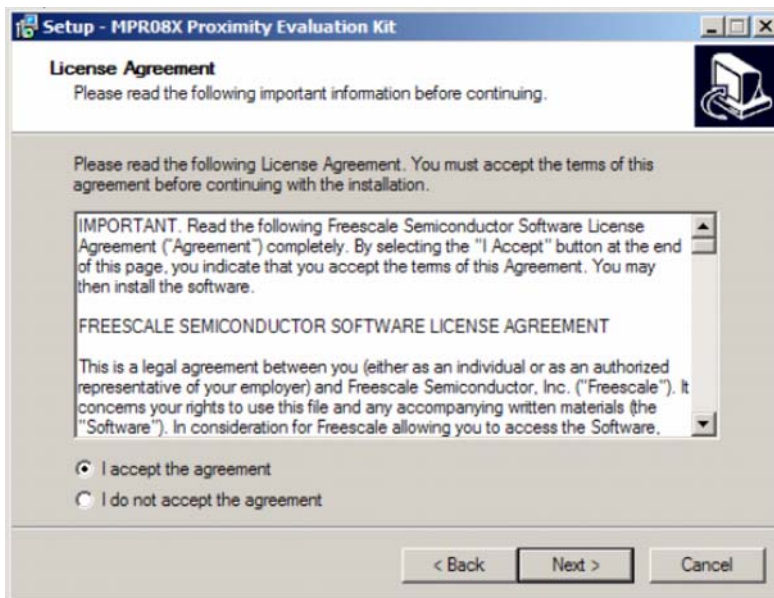

Figure 2. License Agreement
2. Read the license agreement and accept. If the user does not accept the agreement the application will not install (Figure 2).